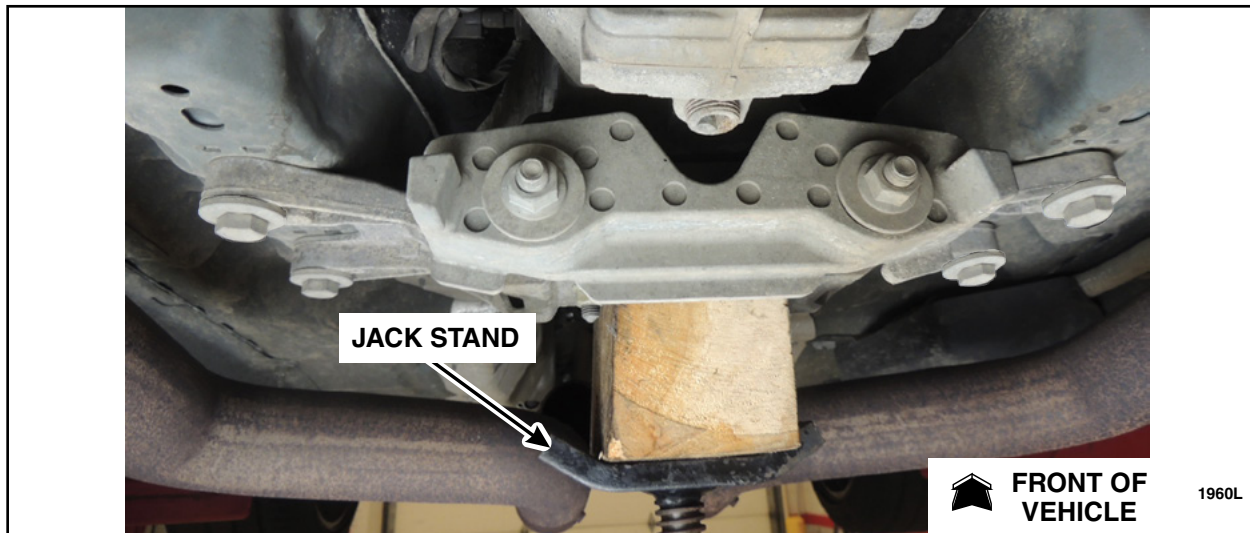

FIGURE 11
12. Position a block of wood and a jack stand under the transmission crossmember. See Figure 11.